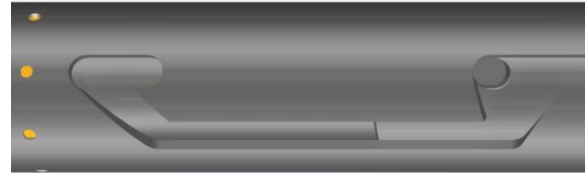

Fig. 6
L-1.19) Position J-pin of J-pin bottom sub (23) on tension shoulder in J-slot of J-body (20) (Fig. 6).